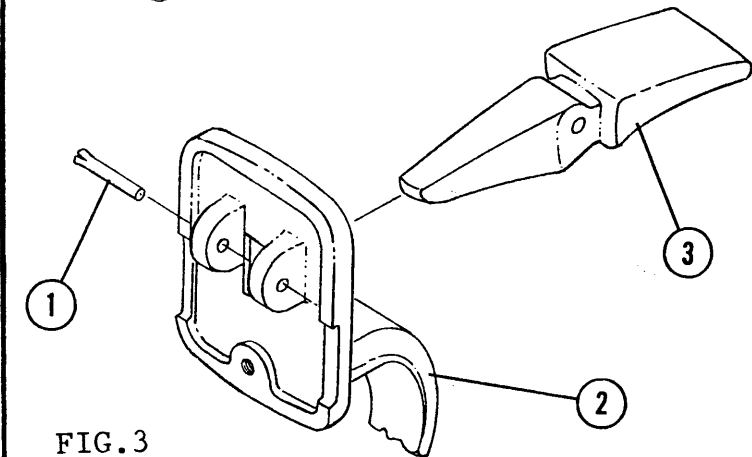

FIG.3
- C. If 7623 TP-M trim is used, see Fig.3.